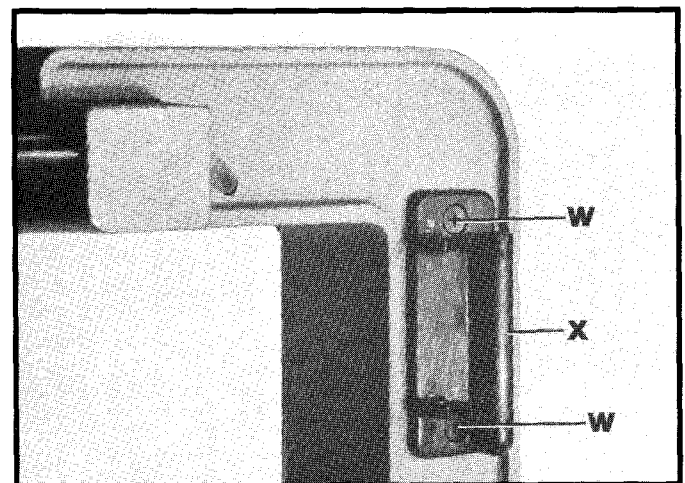

Fig. 12
10. Assemble tool holder (X) Fig. 12, to the right side of the scroll saw using two screws (W).